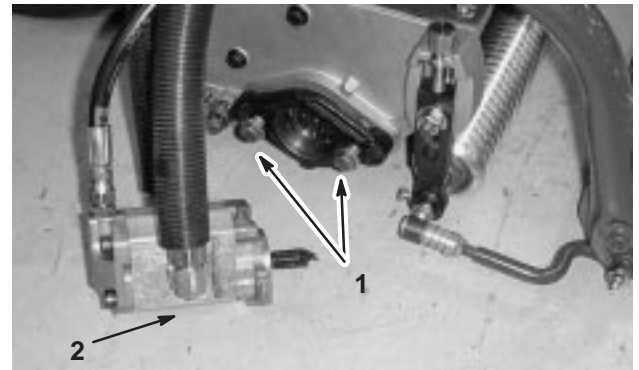

Figure 13
7. Assemble the mounting capscrews for the reel drive motor to each cutting unit. Leave approximately 1/2 in. (13 mm) of threads exposed on each mounting capscrew (Fig. 13).
- Coat the spline shaft of the motor with clean grease and install the motor by rotating the motor clockwise so that the motor flanges clear the studs. Rotate the motor counterclockwise until the flanges are encircling the studs. Tighten the mounting capscrews (Fig. 13).